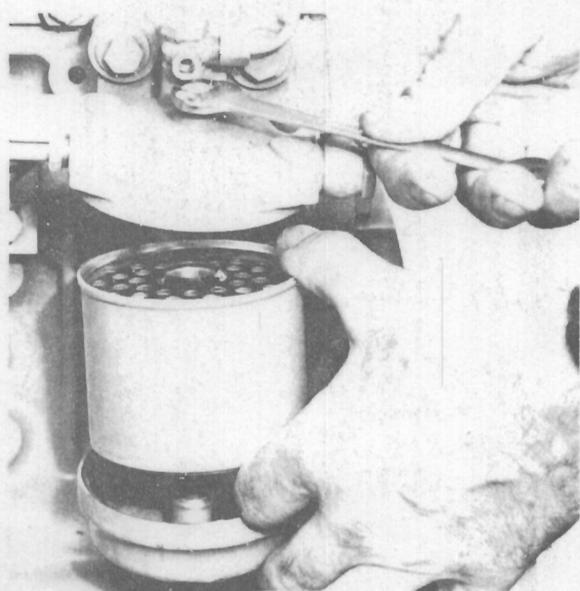

Fig. N.1.
3. Lower the element and the bottom cover or the bowl clear (Fig. N.1) and discard the element.